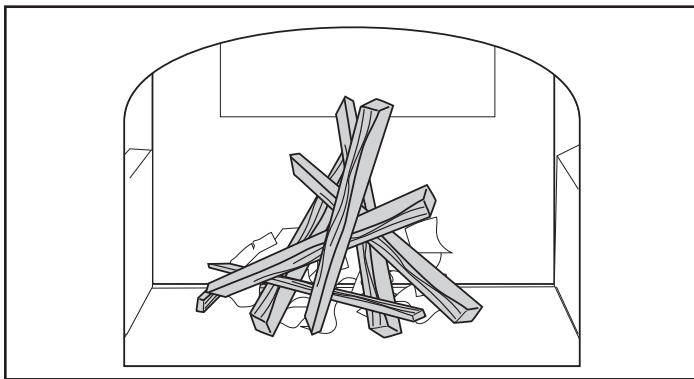

Figure 34 - Start the fire with newspaper and dry kindling.
2. Place several sheets of crumpled newspaper in the stove. Place six or eight pieces of dry kindling split to a finger-width size on the paper. On the kindling, lay two or three larger sticks of split dry wood approximately 1/2" (25-51 mm) in diameter. (Figure 34)